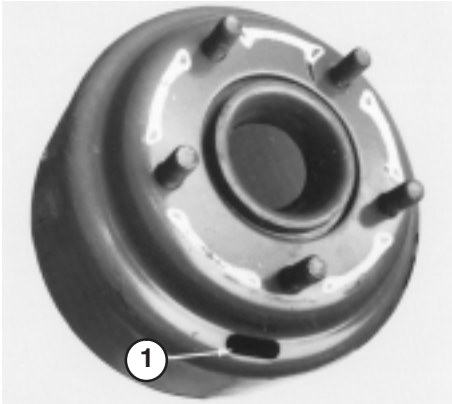
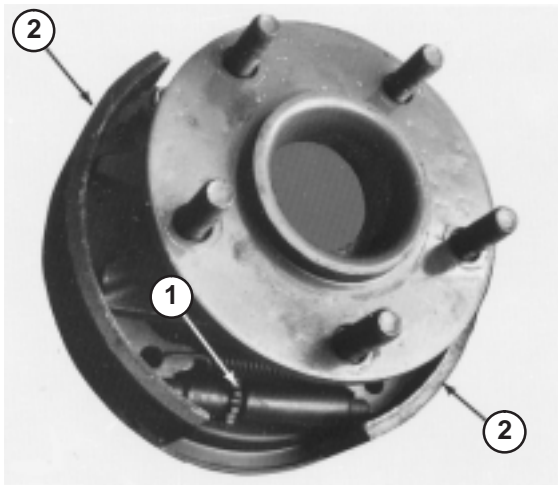

Figure 45
Figure 46
- Remove wheel nuts and slide wheel and tire assembly off studs. Rotate brake drum until adjusting slot is at bottom and centered over star nut that adjusts brake shoes (Fig. 45).
- Using a brake adjusting tool or screwdriver, rotate star nut (Fig. 45) down until brake drum (Fig. 46) locks because of outward pressure of brake shoes (Fig. 46).